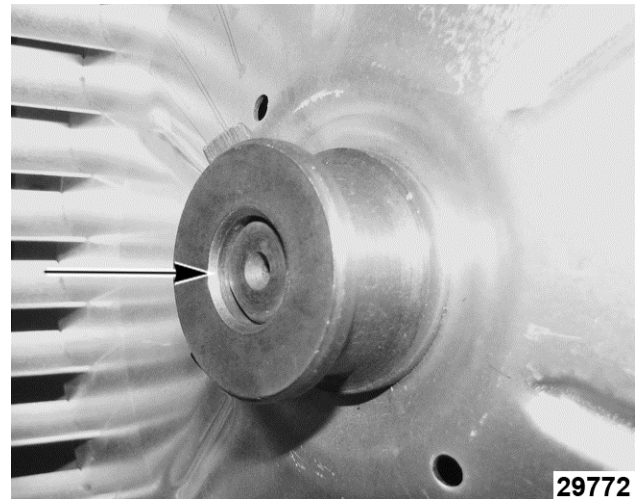

**Fig. 22**
2. Tighten set screws ( Fig. 22) on blower hub.